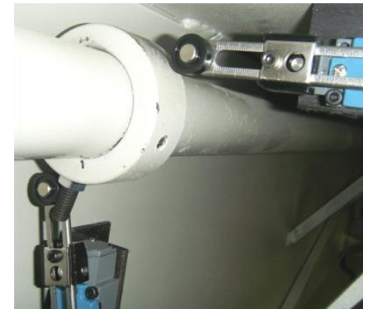

figure 24
2. Loosen the set screw on the collar (fig. 24).